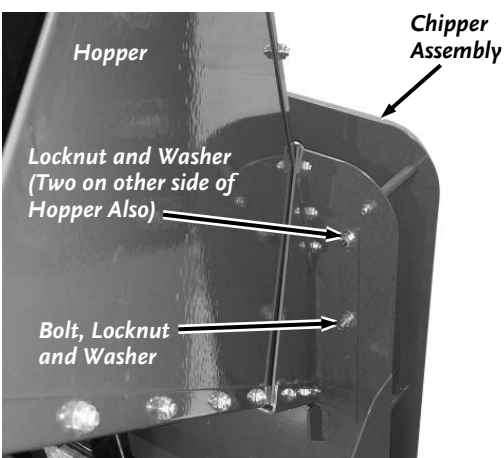

Figure 8b: Pro XL-575
2. Position the Hopper Assembly onto the Housing Support and the three Housing Studs (**Figure 8b**) and secure the Bolt to the Hopper Assembly with a 5/16-18 Locknut and Washer.